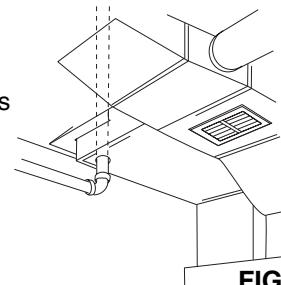

FIGURE 6
**Cold-Air Return.** A cold-air return often provides a straight run from basement to other levels of the house. See Figure 6. The ductwork is easily cut for access. Seal around the tube when completing the installation.
**Note Figure 6 for center line dimensions.**